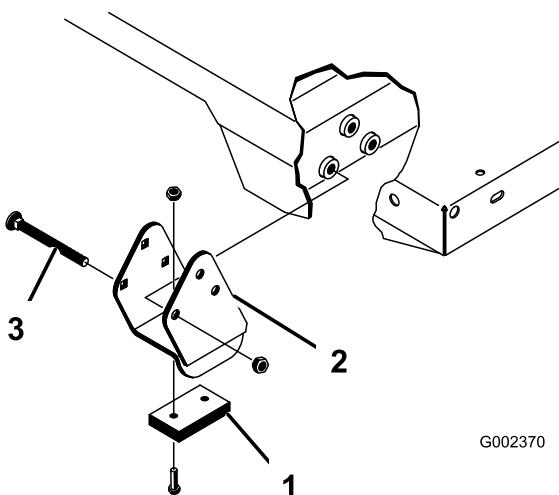

Figure 35
Note: Ensure that the spacer brackets and wear blocks (Figure 35) are installed with the carriage bolt heads positioned inside the machine.
2. Carefully set the bed onto the machine frame aligning the rear bed pivot-plate holes with the holes in the rear frame channel and install 2 clevis pins and lynch pins (Figure 35).
4. Insert the clevis pin from outside of the bed with the lynch pin toward the outside (Figure 35).